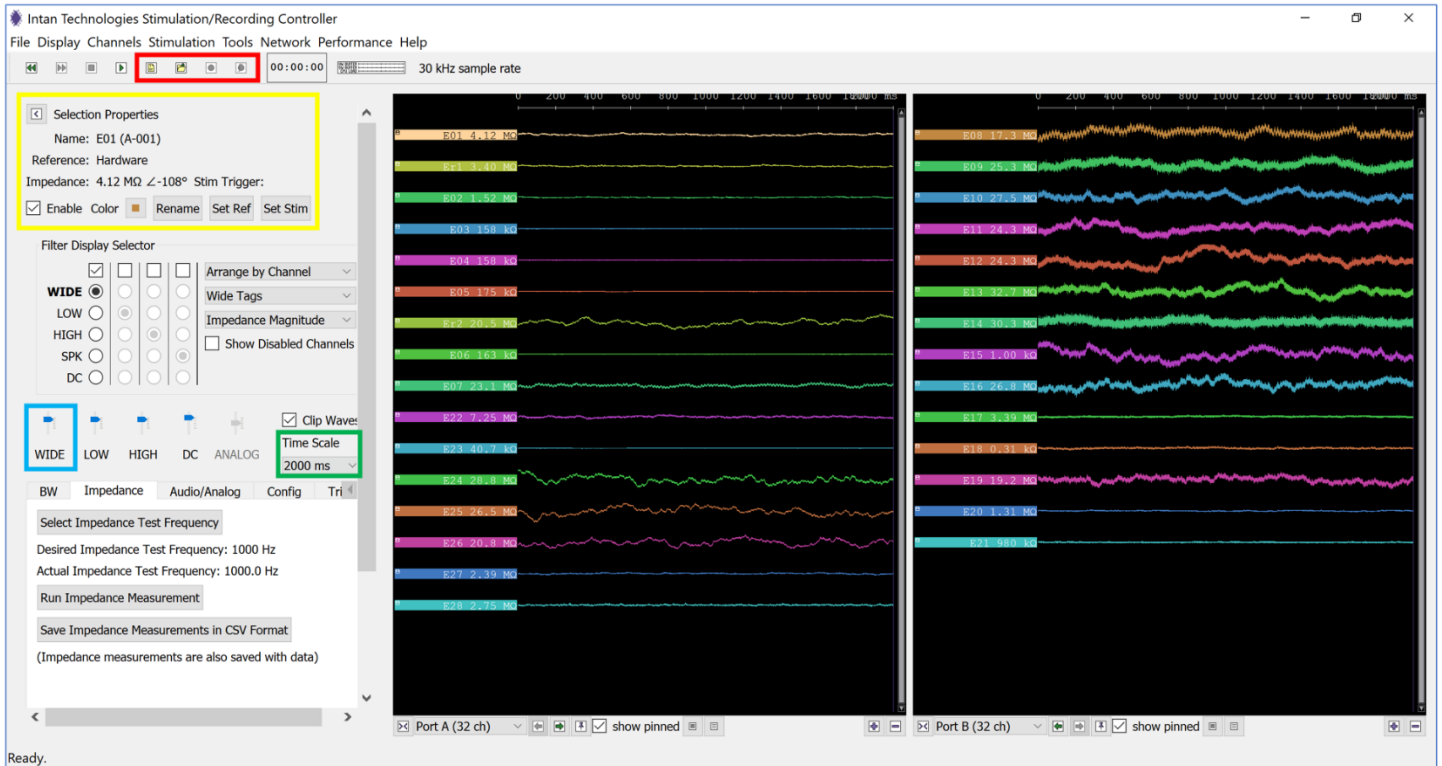

Fig. 40: GUI with options for file recording format and filename, channel renaming, and time/voltage scaling.
The GUI with the relevant tabs for file recording format and filename (red box in **Fig. 40**) is shown below.
- a. The “time scale” (x-axis of display section in the GUI) is selected from the drop-down menu (green box in **Fig. 40**).
- b. The “voltage scale” (y-axis of display section in the GUI) is adjusted using the level indicators of the wide analog bands of the channel (blue box in **Fig. 40**).
Using the commands in the "Channels" tab (**Fig. 41b**), you can rename, set the color, and group individual channels. An alternative way to rename and set the color is to select the channel you want to rename/recolor, and use corresponding tabs in the "Selection Properties" section of the GUI (yellow box in **Fig. 40**).
The reference potential can be specified for individual electrodes, i.e., different electrodes can have different reference potential providing high flexibility. To check which reference is used for a specific channel, click on the channel in the display column. The name of the channel, the selected reference electrode and its impedance is shown on the top left of the GUI under “Selection Properties” (yellow box in **Fig. 40**). For instance, in the screenshots below, channel A-001 is using channel A-002 as reference (red underlines), and channel A-004 is using the hardware reference (blue underlines).